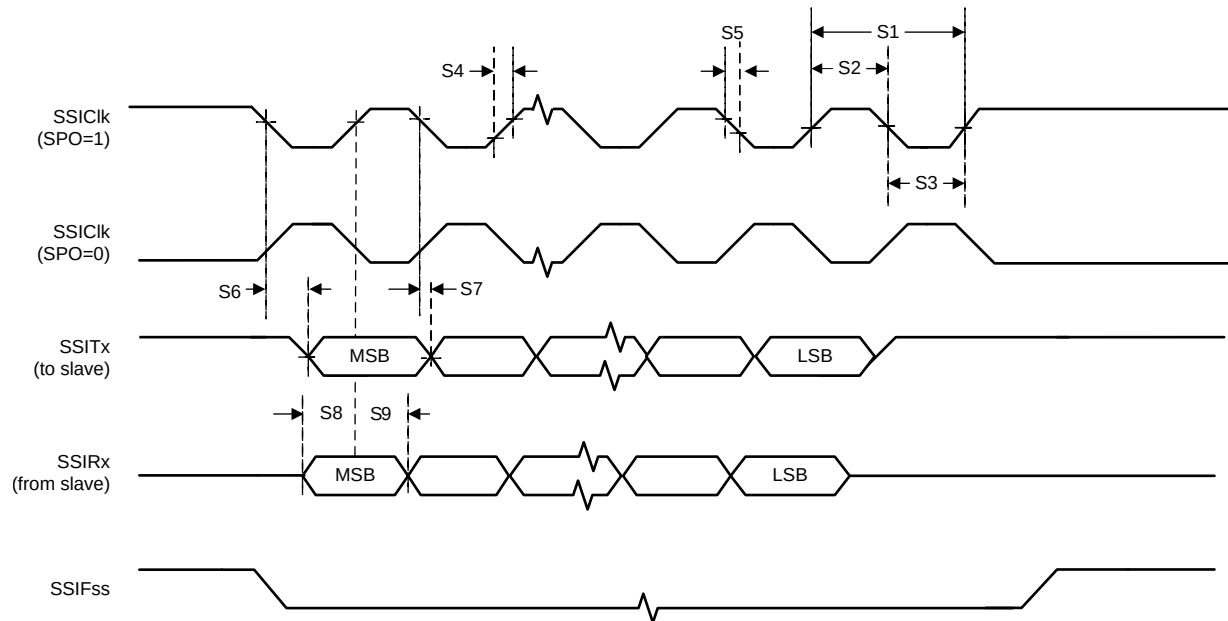
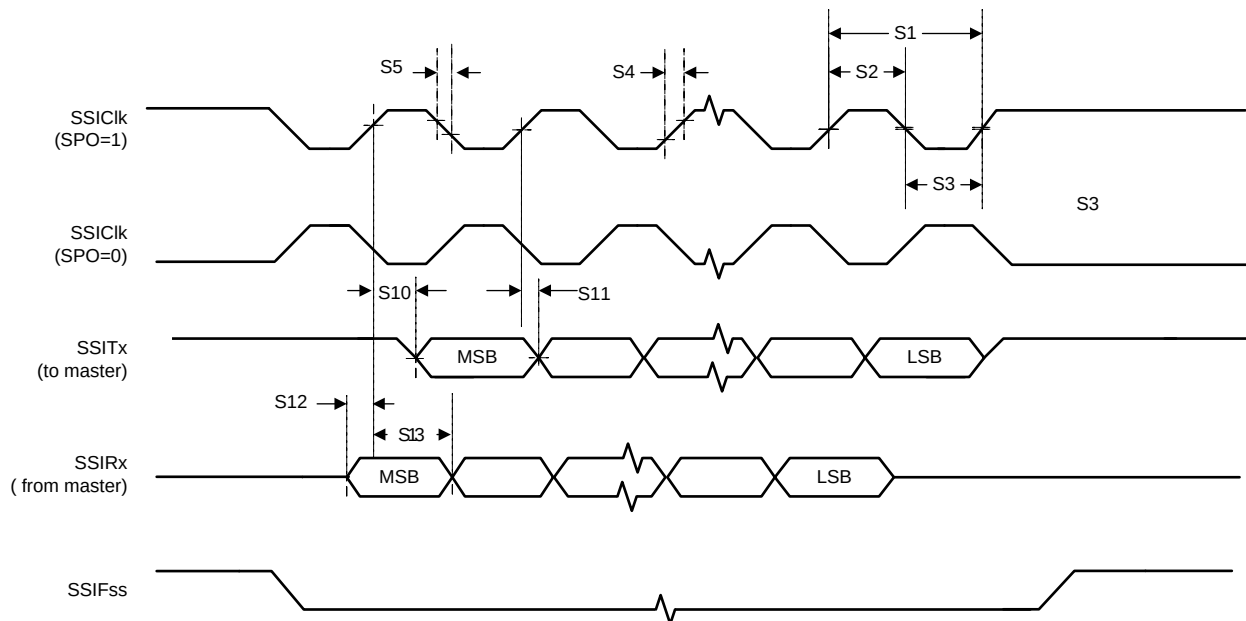

Figure 5-29. Master Mode SSI Timing for SPI Frame Format (FRF = 00), With SPH = 1
Figure 5-30. Slave Mode SSI Timing for SPI Frame Format (FRF = 00), With SPH = 1
5.15.12 Synchronous Serial Interface (SSI)**Table 5-35. SSI Characteristics**over operating free-air temperature (unless otherwise noted) (see Figure 5-28, Figure 5-29, and Figure 5-30)
(1) Parameters S15 to S23 correspond to parameters S1 to S9 in Figure 5-28 and Figure 5-29.
(2) In master mode, the system clock must be at least twice as fast as the SSIClk.
(3) The delays shown are using 12-mA drive strength.